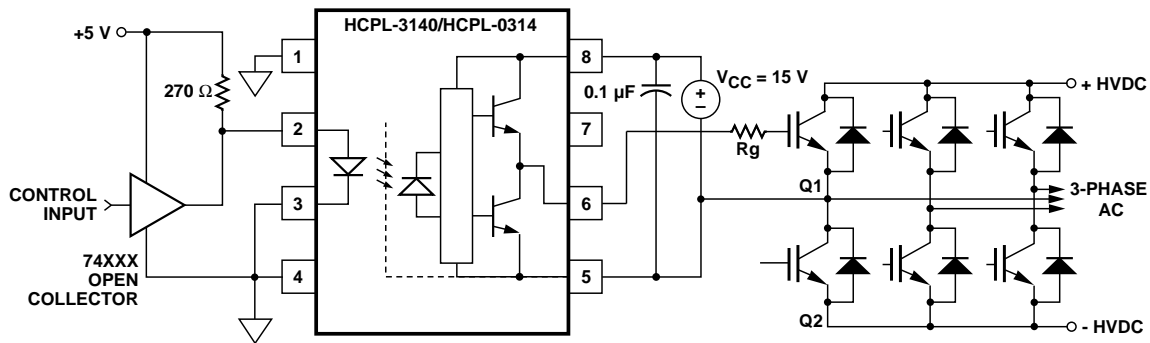
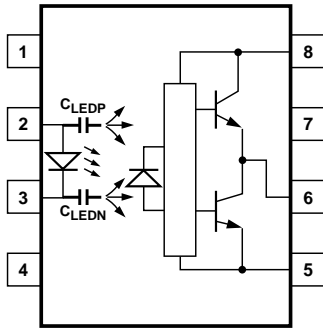
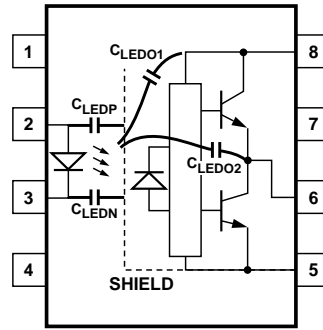

Figure 19. Recommended LED Drive and Application Circuit for HCPL-3140/HCPL-0314.
Figure 21. Optocoupler Input to Output Capacitance Model for Unshielded Optocouplers.
Figure 22. Optocoupler Input to Output Capacitance Model for Shielded Optocouplers.
HCPL-3140/HCPL-0314 on a small PC board directly above the IGBT) can eliminate the need for negative IGBT gate drive in many applications as shown in Figure 19. Care should be taken with such a PC board design to avoid routing the IGBT collector or emitter traces close to the HCPL-3140/HCPL-0314 input as this can result in unwanted
Step 1: Calculate Rg minimum from the IOL peak specification. The IGBT and Rg in Figure 19 can be analyzed as a simple RC circuit with a voltage supplied by the HCPL-3140/HCPL-0314.
where $K_{ICC} \cdot Q_g \cdot f$ is the increase in ICC due to switching and K_{ICC} is a constant of 0.001 mA/(nC*kHz). For the circuit in Figure 19 with IF (worst case) = 10 mA, Rg = 32 Ω, Max Duty Cycle = 80%, Qg = 100 nC, f = 20 kHz and TMAX = 85°C:
Without a detector shield, the dominant cause of optocoupler CMR failure is capacitive coupling from the input side of the optocoupler, through the package, to the detector IC as shown in Figure 21. The HCPL-3140/HCPL-0314 improves CMR performance by using a detector IC with an optically transparent Faraday shield, which diverts the capacitively coupled current away from the sensitive IC circuitry. However, this shield does not eliminate the capacitive coupling between the LED and opto-coupler pins 5-8 as shown in Figure 22. This capacitive coupling causes perturbations in the LED current during common mode transients and becomes the major source of CMR failures for a shielded optocoupler. The main design objective of a high CMR LED drive circuit becomes keeping the LED in the proper state (on or off) during common mode transients. For example, the recommended application circuit (Figure 19), can achieve 10 kV/μs CMR while minimizing component complexity.
supplied by the LED, and it is not recommended for applications requiring ultra high CMR_L performance. The alternative drive circuit which like the recommended application circuit (Figure 19), does achieve ultra high CMR performance by shunting the LED in the off state.